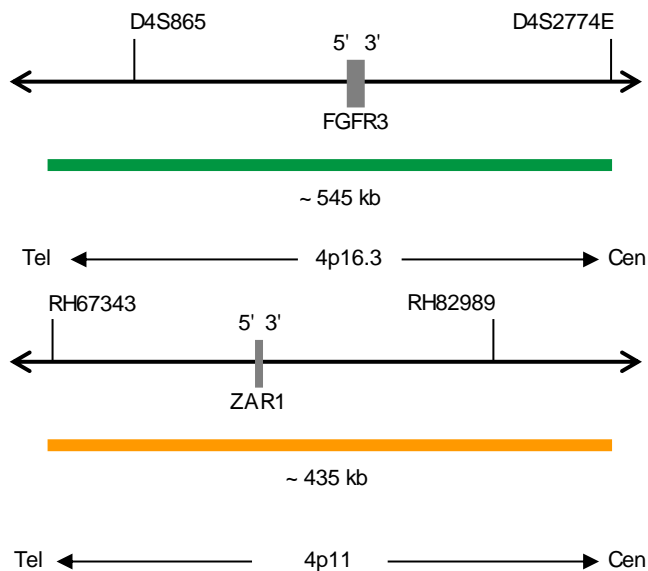

Fig. 1: Top: SPEC FGFR3 Probe map; Bottom: SPEC 4p11 Probe map (not to scale)
- ZyGreen (excitation 503 nm/emission 528 nm) labeled polynucleotides (~10 ng/μl), which target sequences mapping in 4p16.3* (chr4:1,531,083-2,073,649) harboring the FGFR3 gene region (see Fig. 1).
- ZyOrange (excitation 547 nm/emission 572 nm) labeled polynucleotides (~4.5 ng/μl), which target sequences mapping in 4p11* (chr4:48,329,914-48,762,386) (see Fig. 1).